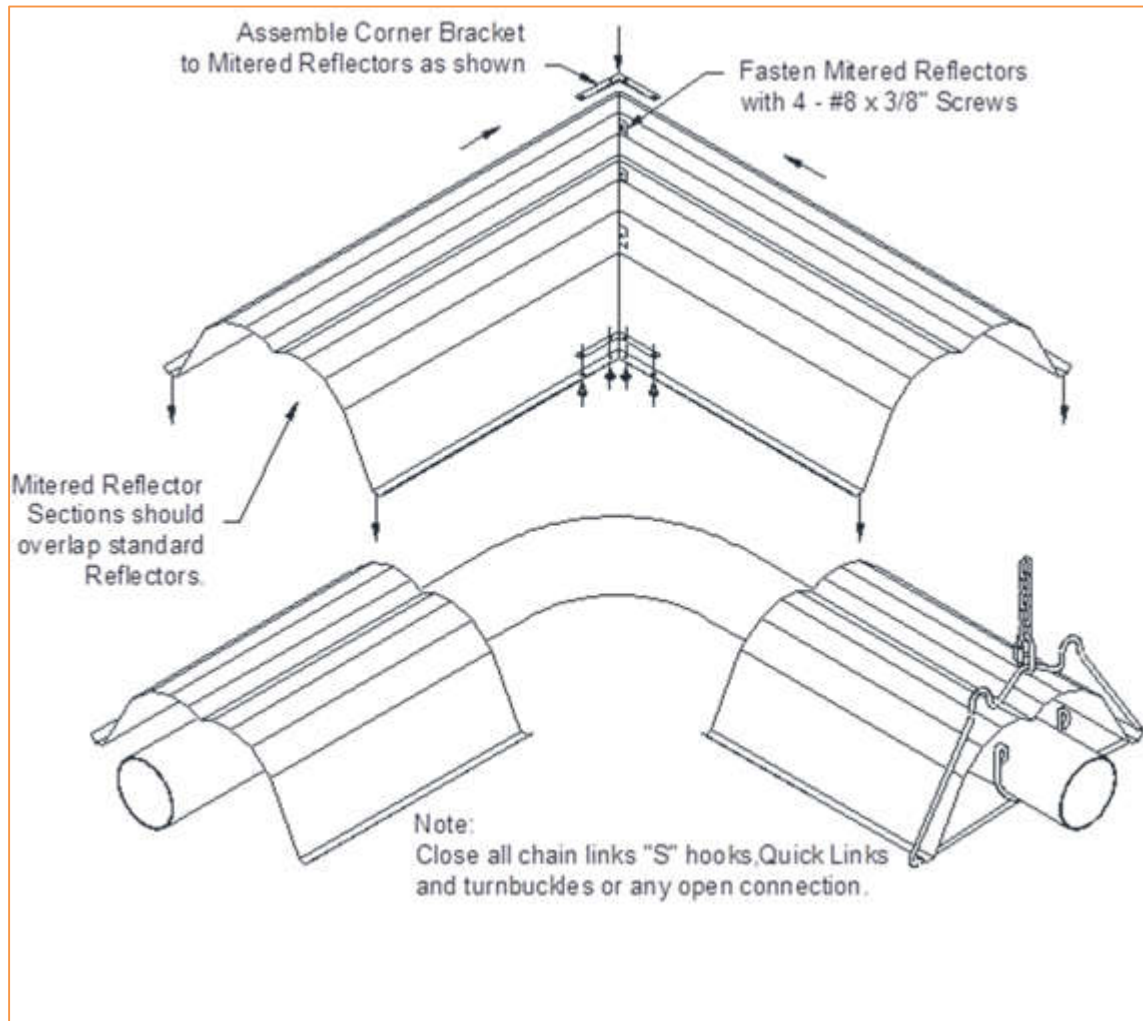

Figure 26: Optional - Corner (Mitered) Reflectors
*When using the optional Corner/Mitered Reflectors refer to Figure 26 in Section E - Optional Shield Equipment, for details on how to assemble Reflectors sections instead of installing End Caps.
Corner/Mitered Reflector Kits are used above elbow locations instead of stopping and restarting a Reflector run to accommodate the elbow. Secure the Mitered Reflectors together using the Two (2) Corner Brackets as shown in Figure 26. Also insert #8 x 3/8" screws at each 'tab' location along the top of the Reflectors.